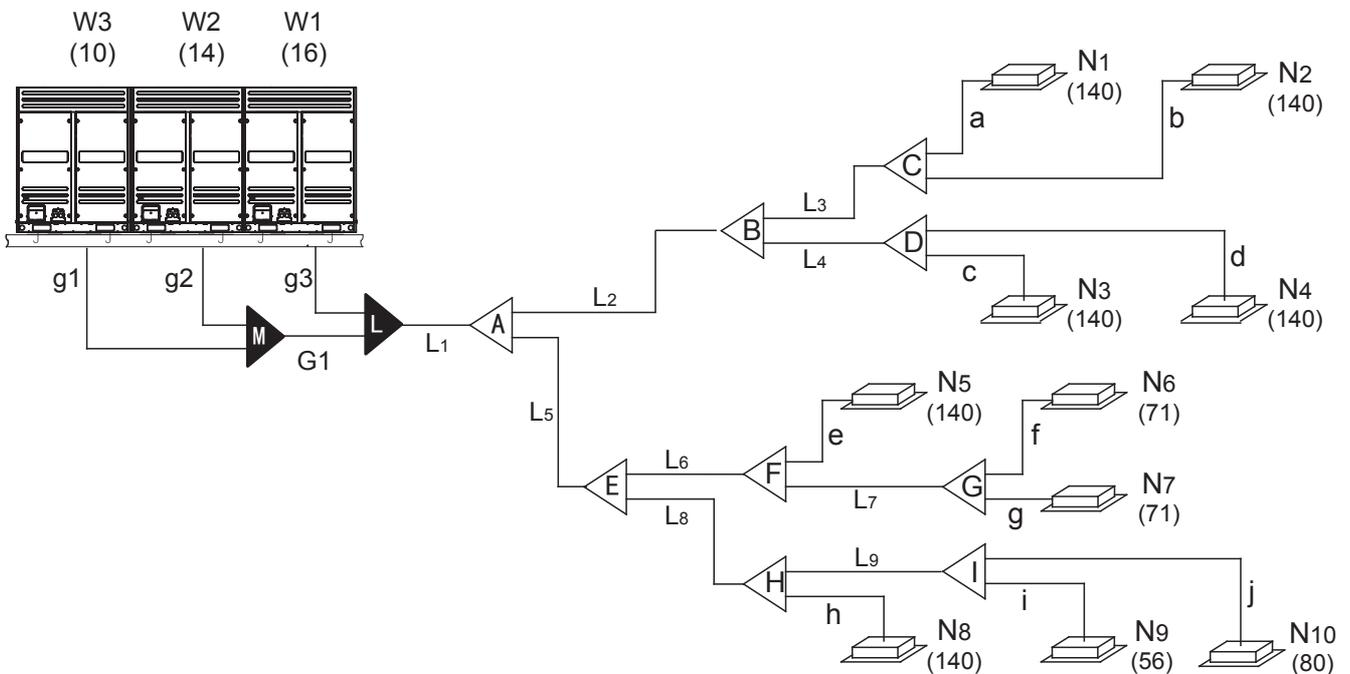

Fig.5-3
Pipe name	Code (As per the Fig. 5-3)
e.x.1: Refer to Fig.5-3, the capacity of downstream units to L2 is 140×4=560, i.e. the gas pipe for L2 is Φ28.6, liquid pipe is Φ15.9.
- 2) Take Fig.5-3 as an example. Provided that the equivalent length of all pipes in this system is larger than 90m.